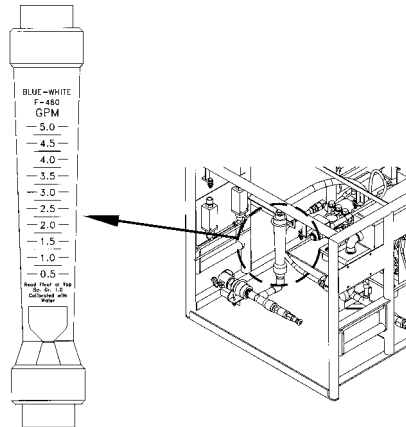

Figure 30. High-Pressure Pump Module Flow Meter.
12. Flow is read at the top of the float on the flow meter on the high-pressure pump module. See Figure 30.